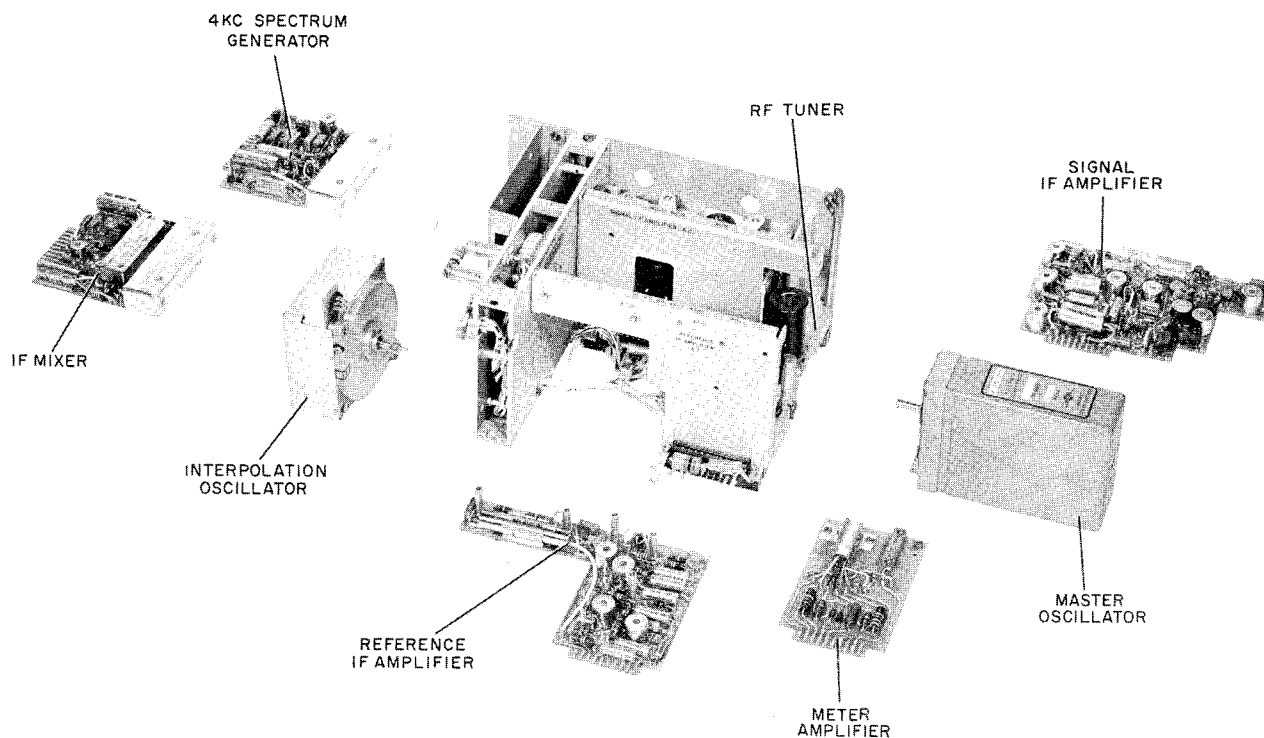

Figure 5-14. Converter-Oscillator CV-731/URC, SMO Module,
1. Remove the SMO module (see paragraph 5-3a(3)(b)). Refer to figure 5-14 and proceed as follows: Remove the seven flathead screws (1) that mount the shield cover (2) on SMO module.
2. Remove the four captive mounting screws (3) on the 4-kc spectrum generator (4), i-f mixer and signal i-f amplifier (5), and pull the subassemblies out carefully.
4. Disconnect the coaxial leads (8) from pin E (shield) and pin F (center conductor) of J8 (9) and pin D (shield) and pin E (center conductor) of J5 (10). Remove the two ties holding the coaxial leads to the standoff (11).
5. Loosen the two captive mounting screws (12) in the interpolation oscillator (6).
6. Disconnect A5P1 (13) from J7 (14). Be careful not to twist plug pins; this may damage plug. Using a small flat-bladed screwdriver, gently pry the plug and jack apart.